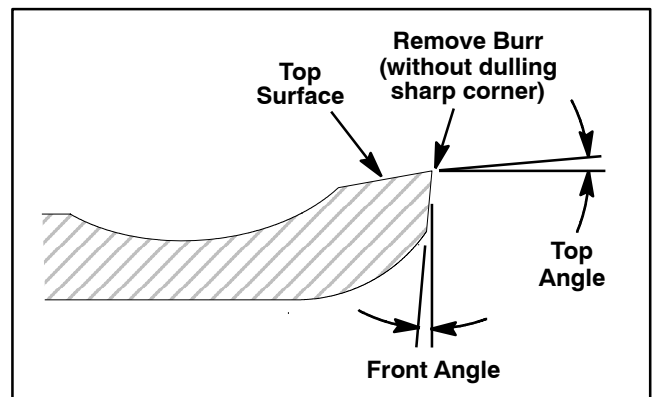

Figure 26
10. For a better cutting edge, run a file across the front face of the bedknife when the lapping operation is completed (Fig. 26). This will remove any burrs or rough edges that may have built up on the cutting edge.